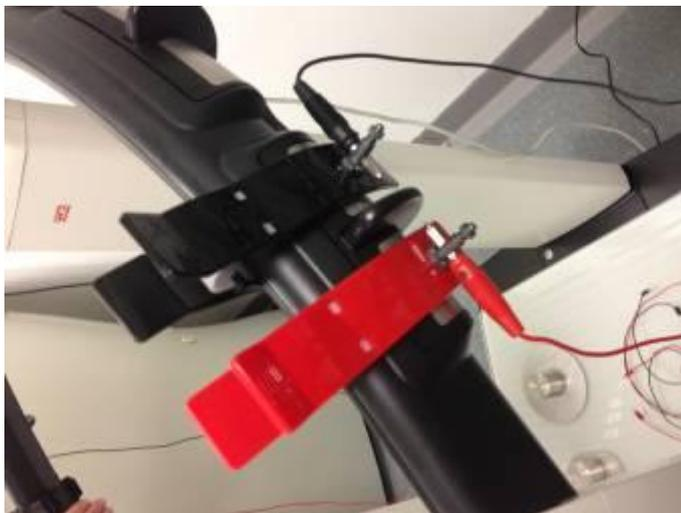

Figure 3.
- c. Connect red leads in the "hand leads" bag to the red clips and black leads in the "hand leads" bag to the black clips over the hand electrodes (figure 3). The attachment side of the clips needs to face outwards and the larger pin end of the leads must be pushed through the hole and the screw mechanism used to tighten the lead in place. Leave the other end of the leads to dangle for the moment.